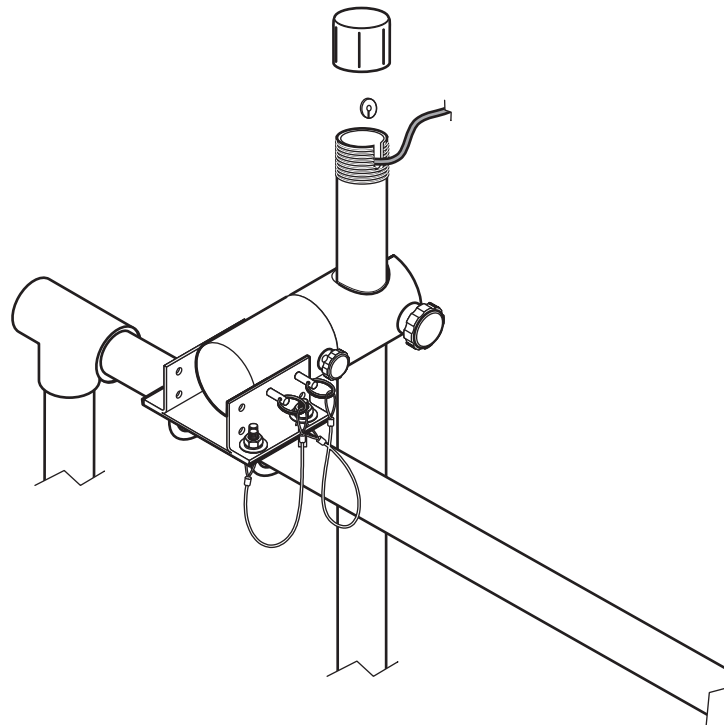
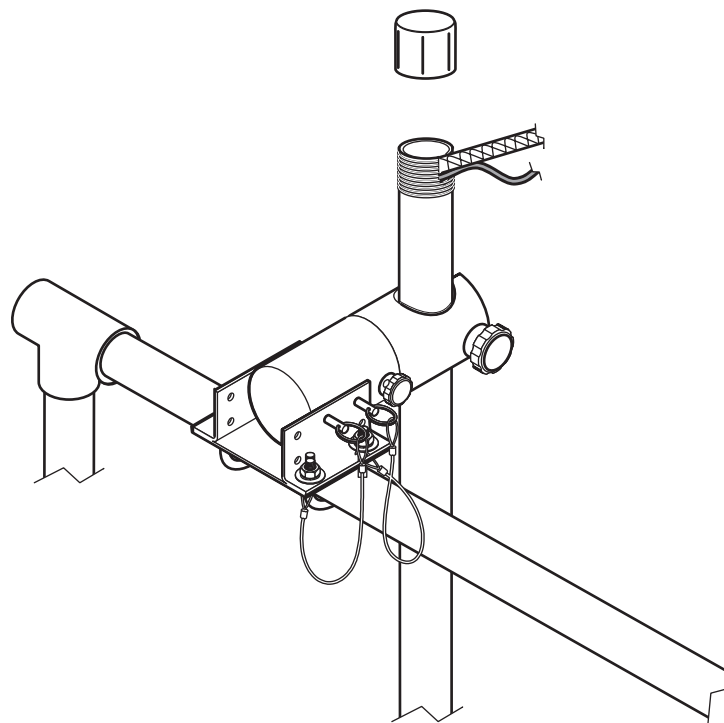

Figure 9 Installing the screw cap without the cleaning unit
Figure 10 Installing the screw cap with the cleaning unit
5. Fit the screw top (Figure 9 or Figure 10 on page 7).